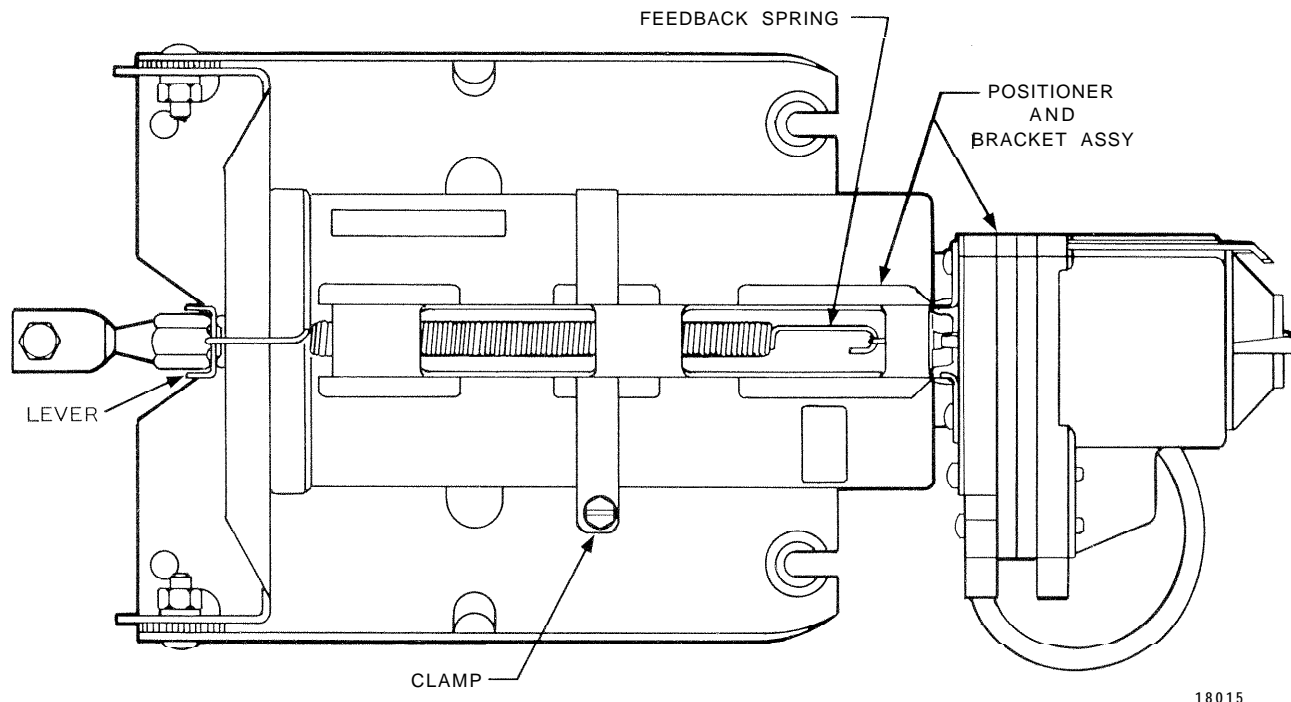

Fig. 2. MP909E Showing Mounted Positive Positioner Retrofit Kit .
6. Secure positioner and bracket assembly in place with clamp as shown in Figure 2.